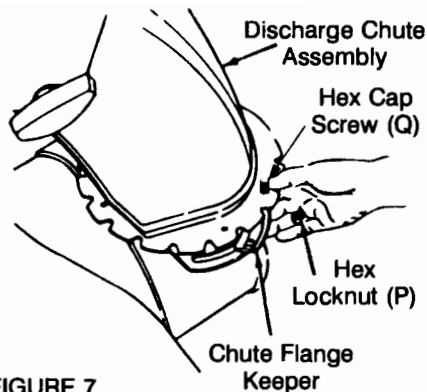

FIGURE 7
- Insert hex cap screws (Q) up through chute flange keeper and chute assembly as shown in Figure 7. Secure with hex locknuts (P). Tighten with two 7/16" wrenches. **Do not over tighten.**